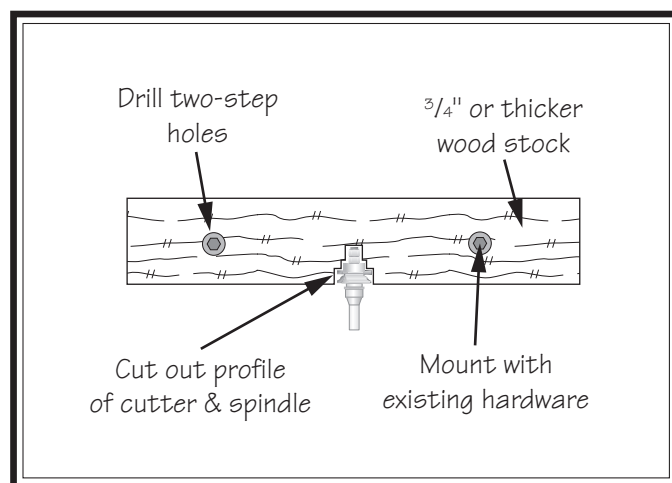

Figure 62. Example of a zero-clearance fence.
6. Cut an outline of spindle and cutter from center of stock, as illustrated in Figure 62.